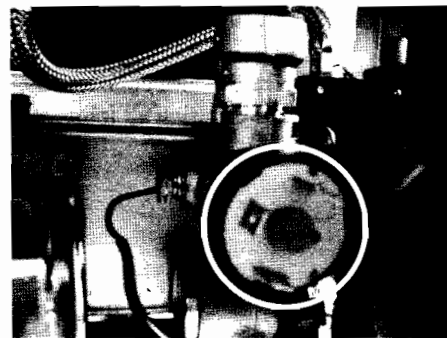

Figure 37
- ☐ Locate the system pressure sensor at the front right handside of the boiler and remove the electrical sensors connections. (figure 37)